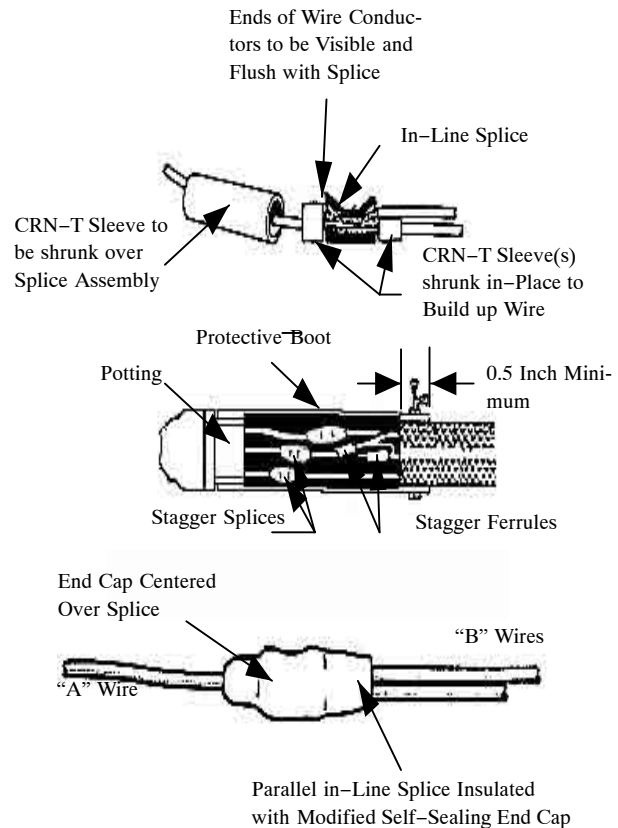

Figure 22. Construction of Modified End Cap Splice
- e. Install modified end cap over the wire as shown in Figure 22.